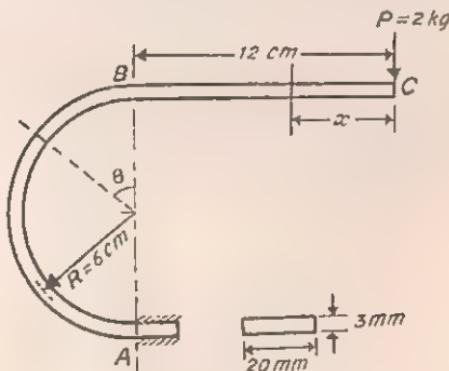

Fig. 39
19. A steel spring *ABC*, of the dimensions shown in Fig. 39 is firmly clamped at *A*. If a load of 2 kg is supported at *C*, find the vertical deflection at this point. Neglect the effect of shear and take $E = 2 \times 10^6 \text{ kg/cm}^2$.